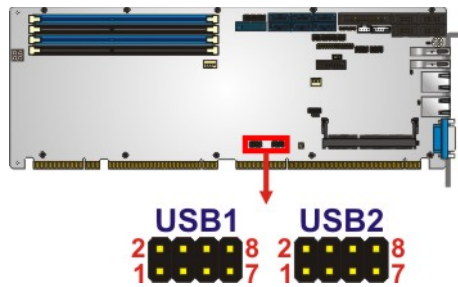

Figure 3-26: USB 2.0 Connector Pinout Locations
- CN Location:** See **Figure 3-26**